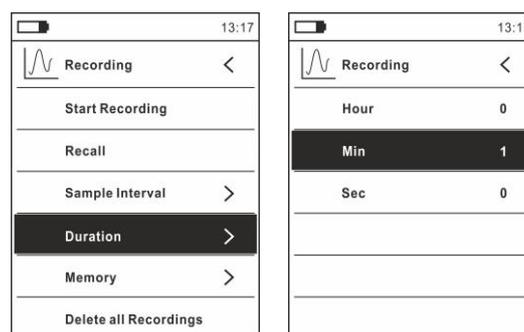

Fig. 36: Data logger function – Setting of recording duration
8. Select item “Duration” (see Fig. 36 – left side) and press key . The screen in Fig.36 – right side appears on the display